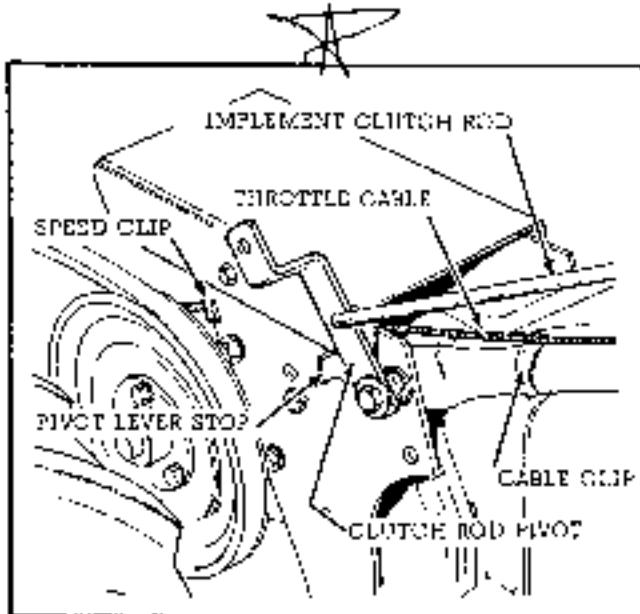
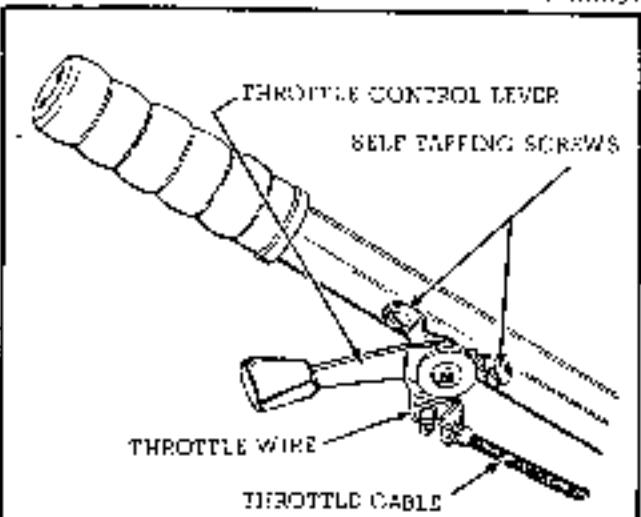

Fig. 2
Fig. 5
2. It will be noted that the tractor handle assembly has 3 rods and levers attached to it. These control the tractor clutch, implement clutch, and transmission shifting. The lever on the left hand side controls the implement clutch rod which is to be attached to the clutch rod pivot lever as shown in figure 2. Remove the handle mounting bolt and install the following parts in this sequence; 3 flat washers, pivot lever stop, bushing, pivot lever, 1 flat washer. Retighten the hex head capscrew and check to see that the end of the clutch rod does not hit on the side of the rear frame cover.
- The speed of the engine is regulated by the throttle control lever. This control lever is already assembled to the throttle cable and for shipment is coiled up and fastened to the engine. Uncoil the throttle cable and pass the control lever under the cover of the rear frame. The cable is to be fastened to the rear frame at this point with a speed clip as shown in figure 2. Continue up the length of the left hand side of the handle assembly and clip the cable in place with cable clips. Fasten the throttle control lever to the left hand handle, using 2 self tapping screws as shown in figure 5. When properly mounted, the throttle will open when the lever is raised, and close when the lever is pushed down. Be certain that the throttle wire is held securely by the locking screw in the throttle lever, and that no kinks or sharp bends exist in the cable mounting.